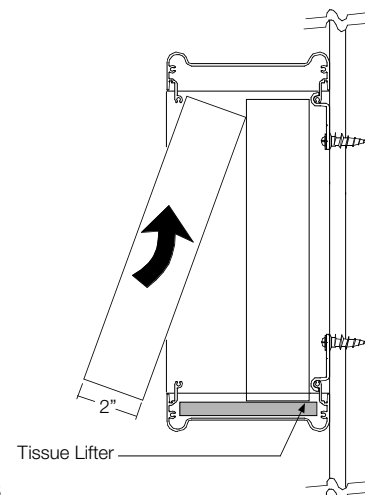

Fig. 8
With Face Plate removed, use two 2" boxes and slip in cabinet, top first as shown. Tissue boxes rest on a flat plate in the bottom of cabinet. (Fig. 8) Always used two (2) boxes to keep dispensing forward